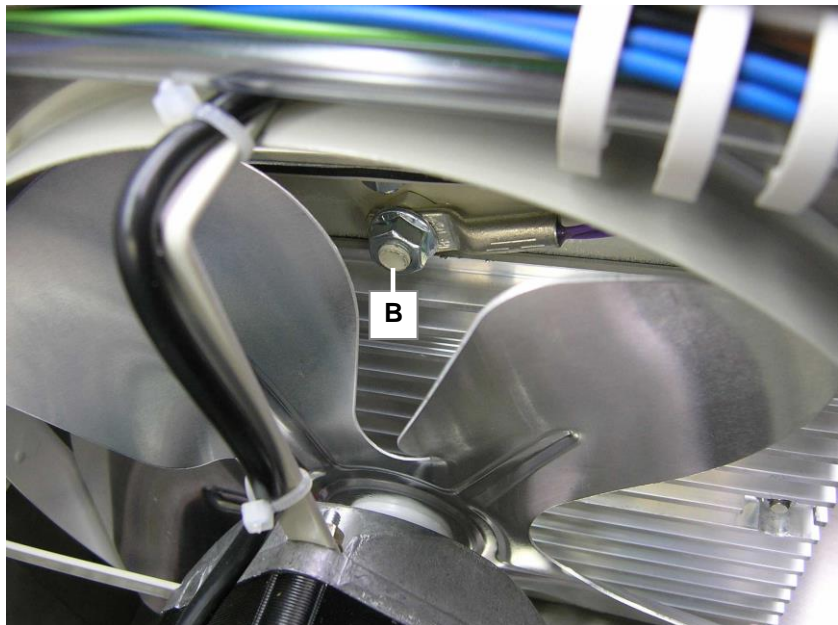

Fig. 6.11 Temperature sensor mounted to the reactor
3. Use a 17 mm fork wrench to unscrew the nuts (see *fig. 6.11.B*) that fasten the temperature sensor to the reactor, take out the temperature sensor.